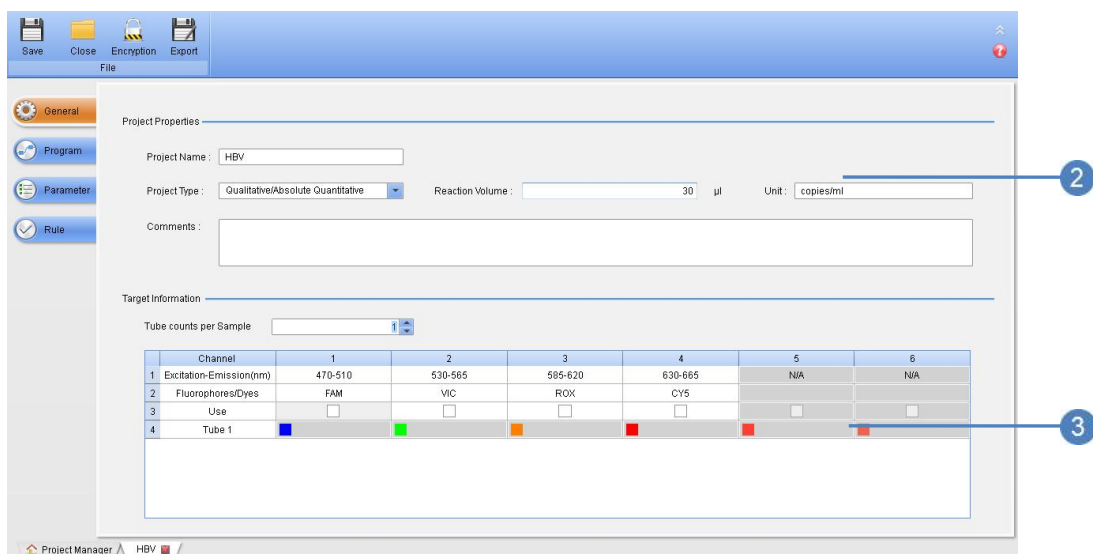

Fig 5- 3
- ① Click **Create** button on the left of the Project Manager screen to open the project wizard (Fig 5- 3).